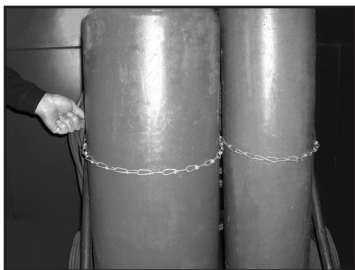

Figure 1
1. Place the cylinder where you will use it. Keep the cylinder in a vertical position. Secure it to a cart, wall, work bench, post, etc. (See Figure 1).